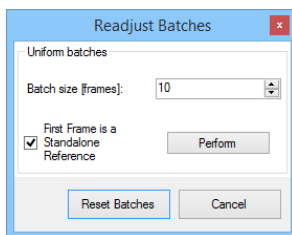

Figure 6: Readjust Batches dialog.
- Readjust batches** – Opens the dialog seen in Figure 6. Recorded image sequence of the open measurement can be additionally readjusted using a uniform distribution. The batch size is defined as a number of frames and can be adjusted by the corresponding numeric box. It can be useful to set the first frame of a measurement as a standalone batch. Check the **First Frame is a Standalone Reference** option to allow this feature. The uniform distribution of batches is confirmed by **Perform** button. Readjusted batches can be reverted to their original state using **Reset Batches** button.